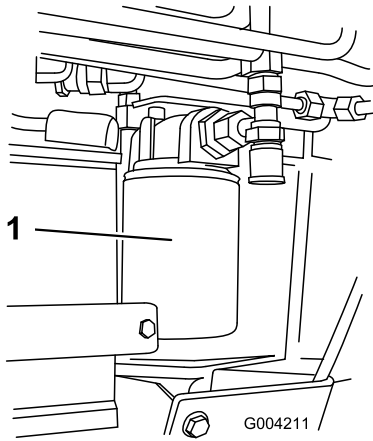

Figure 48
4. Place a drain pan under the filter (Figure 48).
5. Remove the old filter (Figure 48) and wipe the surface of the filter adapter gasket clean.
7. Install the replacement hydraulic filter onto the filter adapter (Figure 48). Tighten it clockwise until the rubber gasket contacts the filter adapter, then tighten the filter an additional 3/4 turn.